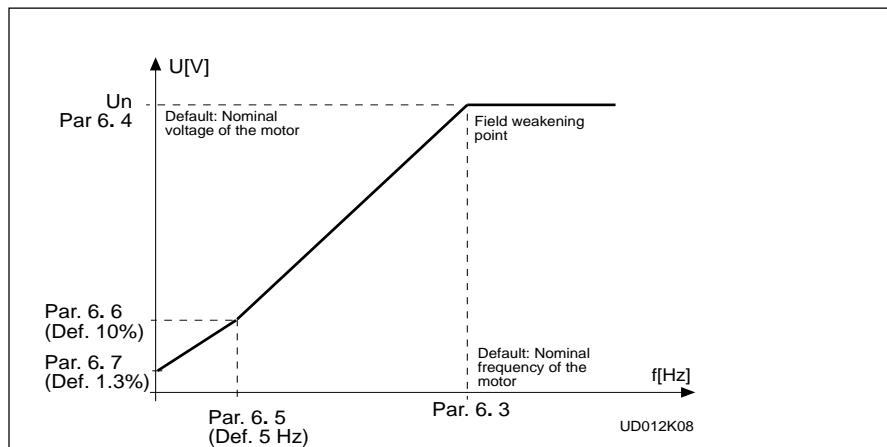

Figure 4.4-3 Programmable U/f curve.
- Programmable U/f curve 2** The U/f curve can be programmed with three different points. The parameters for programming are explained in Chapter 4.5.2. Programmable U/f curve can be used if the other settings do not satisfy the needs of the application. See figure 4.4-3 .